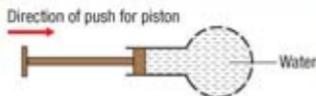

Figure 8.3
2. Sketch the pattern of water shooting out from the fine pores of the flask in Figure 8.3.